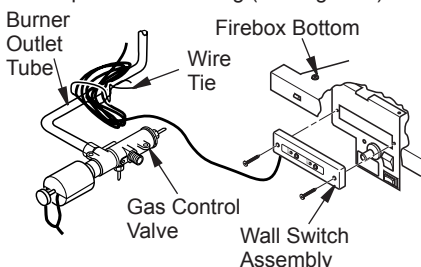

Figure 8 - Relocating Wall Switch Assembly
3. Remove wire tie holding coiled wire attached to wall switch assembly (see Figure 8).